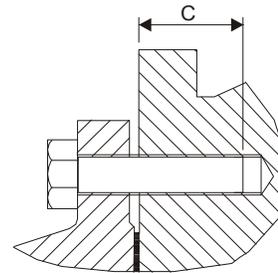

Figure 3
- For installing the meter in the pipe, use screws in accordance with applicable Standards. The screw length must be selected so that a thread reach of C [mm] (Table 2) into the meter is **guaranteed** (Figure 3). For the maximum tightening torque see table 2. Fasten flange screws crosswise.